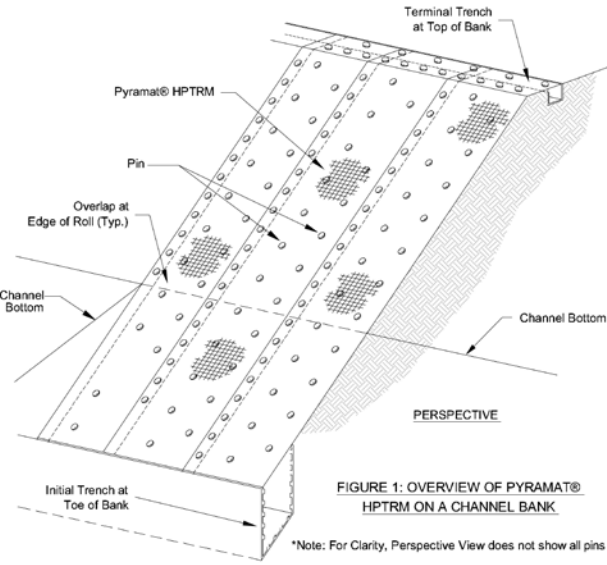

FIGURE 1: OVERVIEW OF PYRAMAT® HPTRM ON A CHANNEL BANK
- Figure 1 shows general installation layout and details for Pyramat® HPTRM on a channel bank.